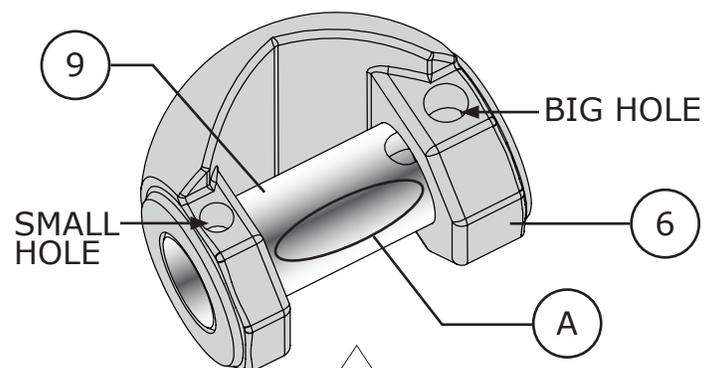

Figure 37 1 to 1-1/2 Inch Follower Shaft Installation
- 1 Apply Permatex® Nickel Anti-Seize or equivalent (Key A) to the follower shaft (Key 9) and insert the follower shaft in the ball (Key 6) as shown in Figure 37.